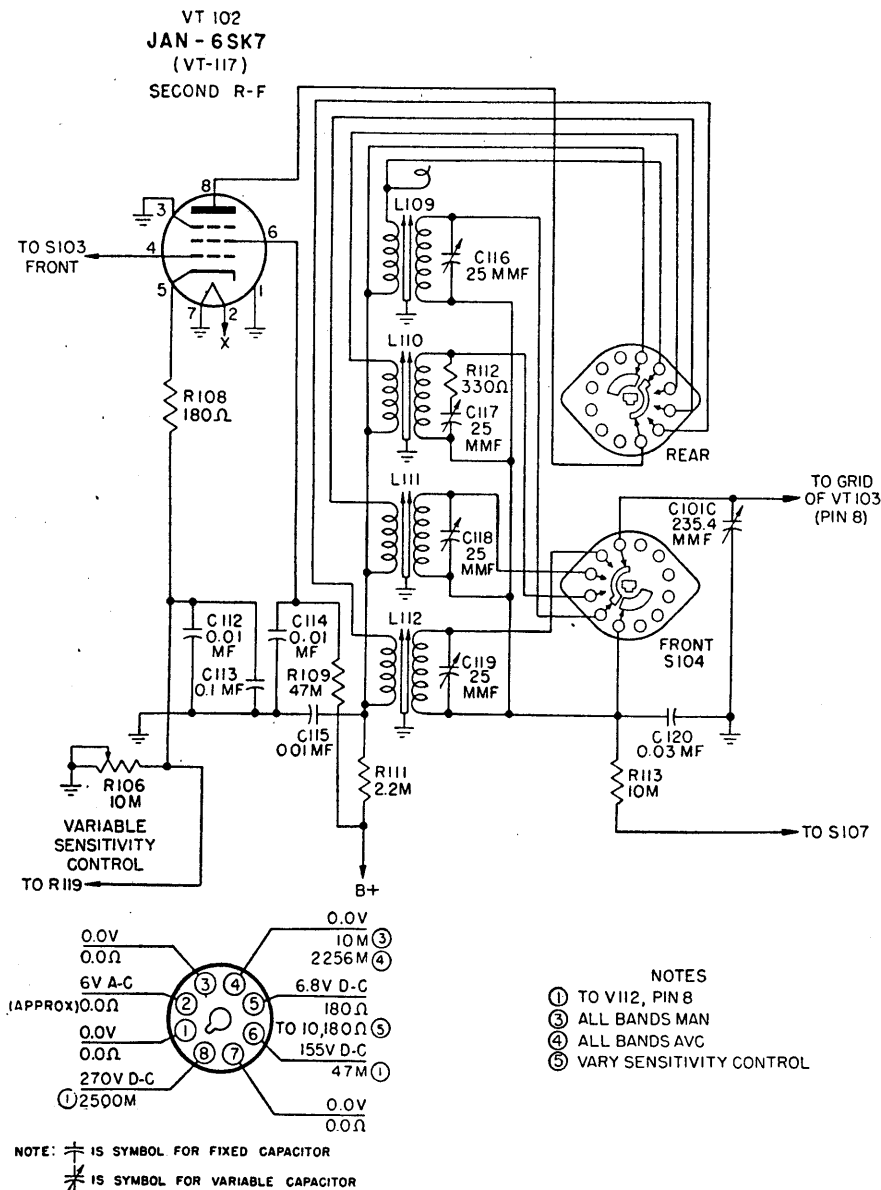

Figure 15. Radio Receiver BC-1147-(*), second r-f amplifier stage.
36. Second R-F Amplifier Stage (fig. 15)
Grid bias for the tube is supplied by the voltage drop across cathode resistor R114 and the SENSITIVITY control R106. (See fig. 15.) The output voltage of the tube appears across the primary of the first i-f transformer. The function of the SELECTIVITY switch S106 is explained in paragraph 38 and figure 17.
a. SPECIAL CIRCUIT FEATURES. Voltages from the secondary of the first i-f transformer are impressed on the control grid (pin No. 4) of tube V104, the first i-f amplifier tube. Grid bias for the tube is supplied by the voltage drop across cathode resistor R119 and the SENSITIVITY control R106. (See fig. 15.) The output voltage of the tube appears across the primary of the second i-f transformer system. The bandwidth or selectivity of the receiver is varied by changing the coupling capacitance of the interstage i-f tuned circuits. (See